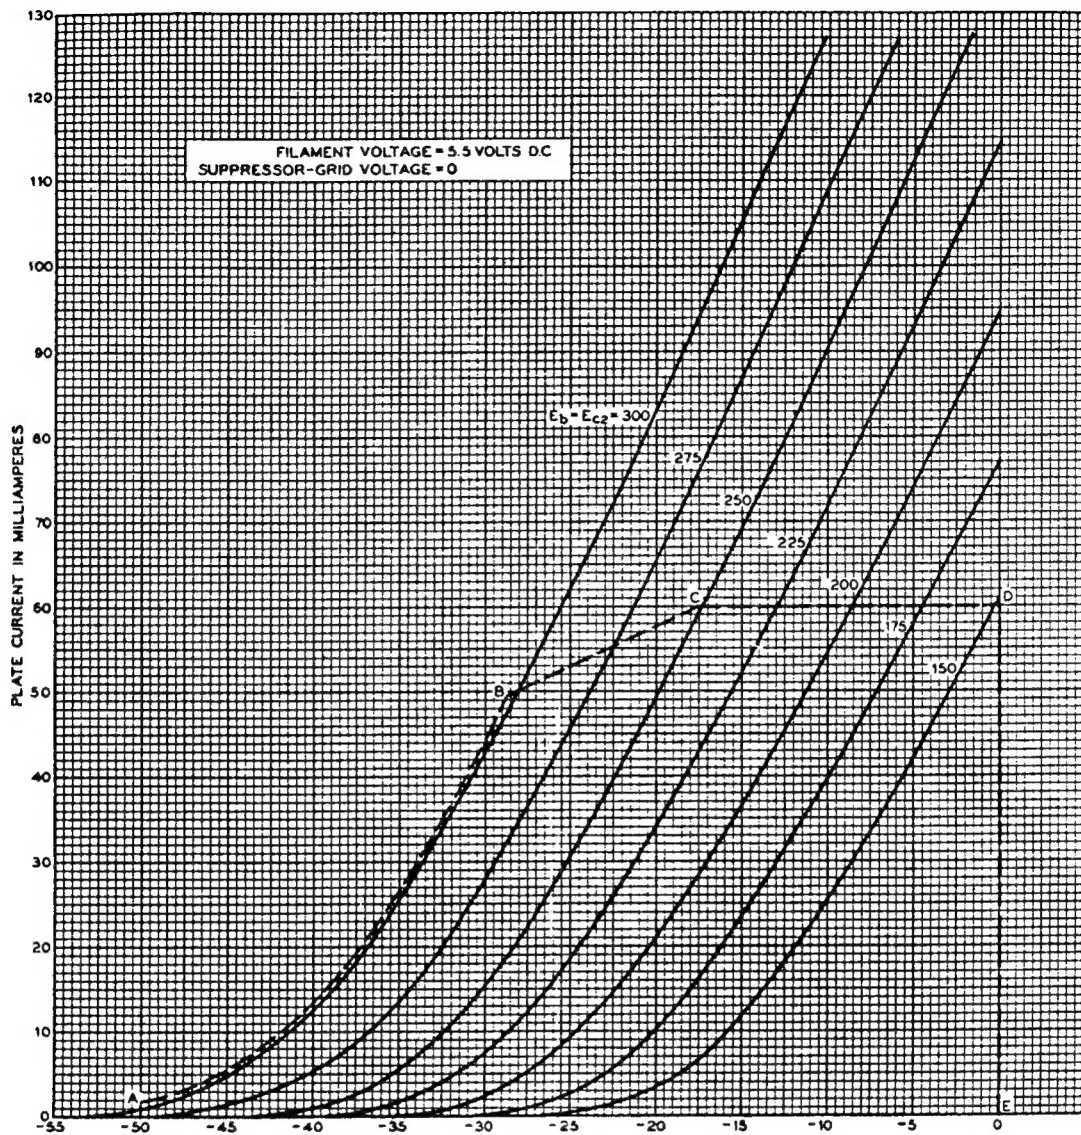
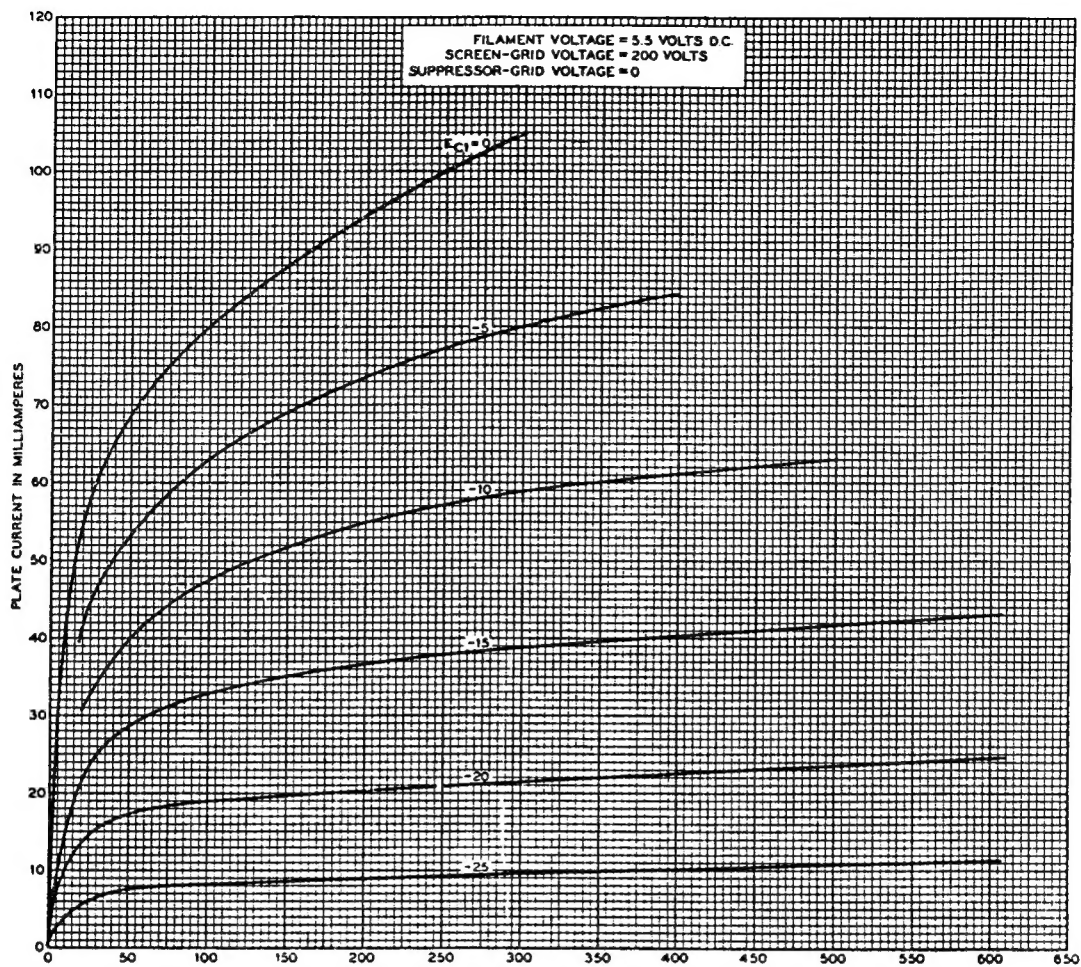
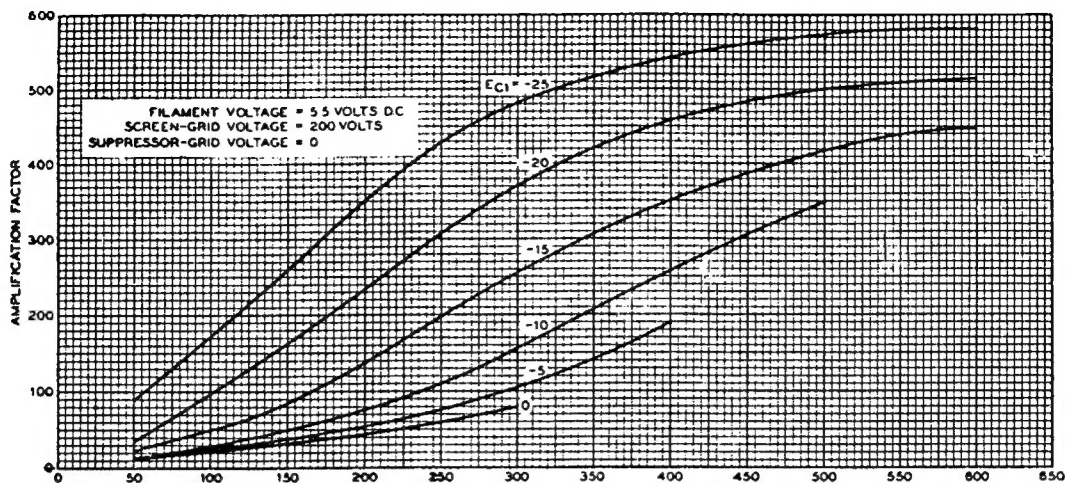
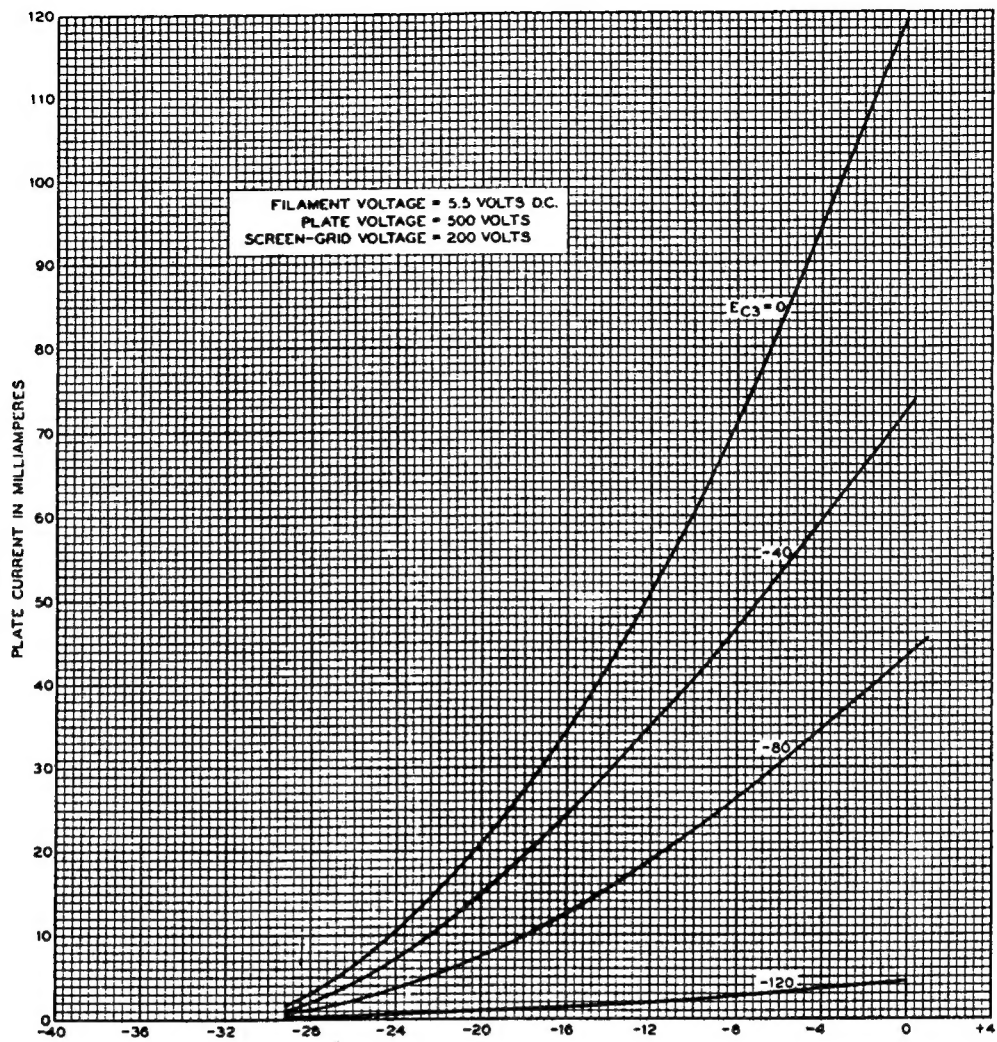

FIG. 3
FIG. 5
FIG. 7
FIG. 10
**Characteristics**—Plate current and screen-grid current characteristics of a typical 307A tube are shown in Figures 3 and 4, respectively, as functions of control-grid bias for several values of screen-grid and plate voltages and zero suppressor-grid voltage. The plate voltage for these characteristics is equal to the screen-grid voltage. Plate current and screen-grid current characteristics are shown as functions of plate voltage in Figures 5 and 6, respectively, for a screen-grid voltage of 200 volts and zero suppressor-grid voltage. Corresponding amplification factor, plate resistance, and transconductance characteristics are shown in Figures 7, 8 and 9, respectively. Plate current and screen-grid current characteristics are shown as functions of control-grid bias in Figures 10 and 11, respectively, for a plate voltage of 500 volts, a screen-grid voltage of 200 volts, and several values of suppressor-grid voltage.
Permissible operating conditions for Class A operation are included within the area, A B C D E, in Figure 3. Nominal performance data are given in the table on page 3 for typical operating conditions represented by selected points within this area. It is assumed that the plate voltage for every operating condition is equal to the screen-grid voltage. Other plate voltages, however, are per-